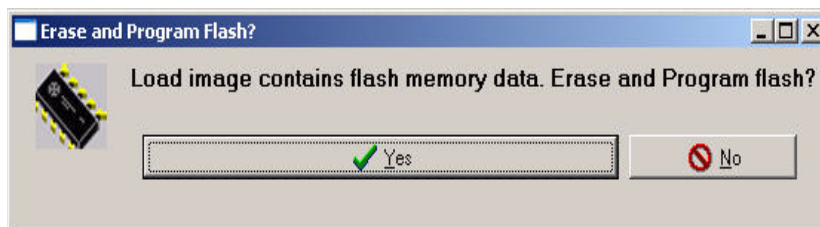

Figure 14. Erase and Program Flash Window
6. As shown in Figure 14, another window may appear with a request to erase the flash memory data on the target. Click the Yes button to Flash the board again.